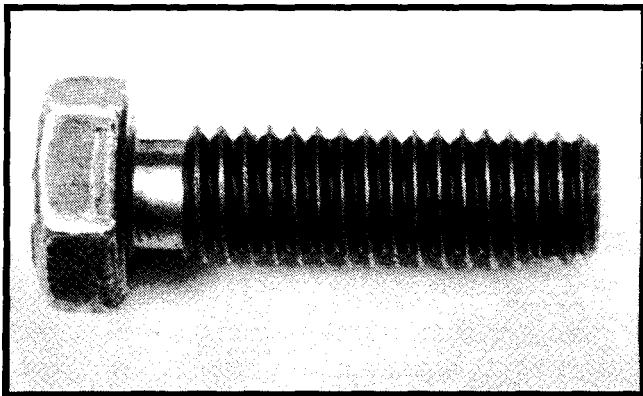

Figure 6.
- The gear retaining screws are specially machined to provide locking tension once installed. Do not substitute standard hardware. Figure 6.